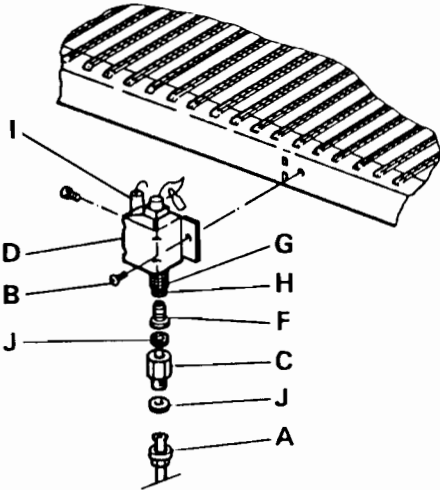

Fig. 14
### **Section 4 : To replace pilot assembly electrode (Fig. 14)**
- 4.6. The pilot assembly including the electrode may now be stripped to its component parts Fig.14 in order to clean/replace complete pilot assembly (C, F, G, H) and electrode assembly I (Fig.14).
- 7.3. Disconnect the electrode assembly by unscrewing the fixing screw of the electrode bracket (Fig. 14).
- 7.5. Undo the union A (Fig. 14). Take care of the sealing washer J. (Section 7).